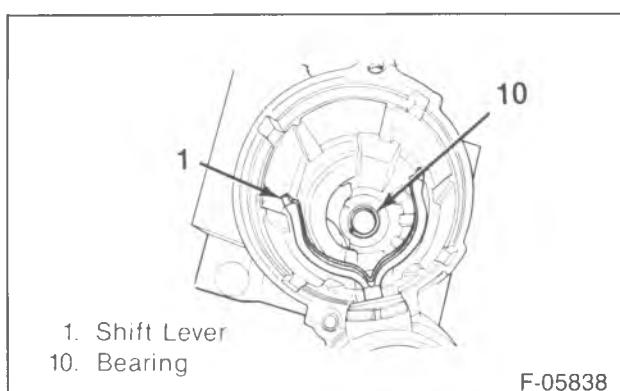

Figure 43—Drive End Bearing
12. Bearing (83) from the drive housing assembly (figure 43).